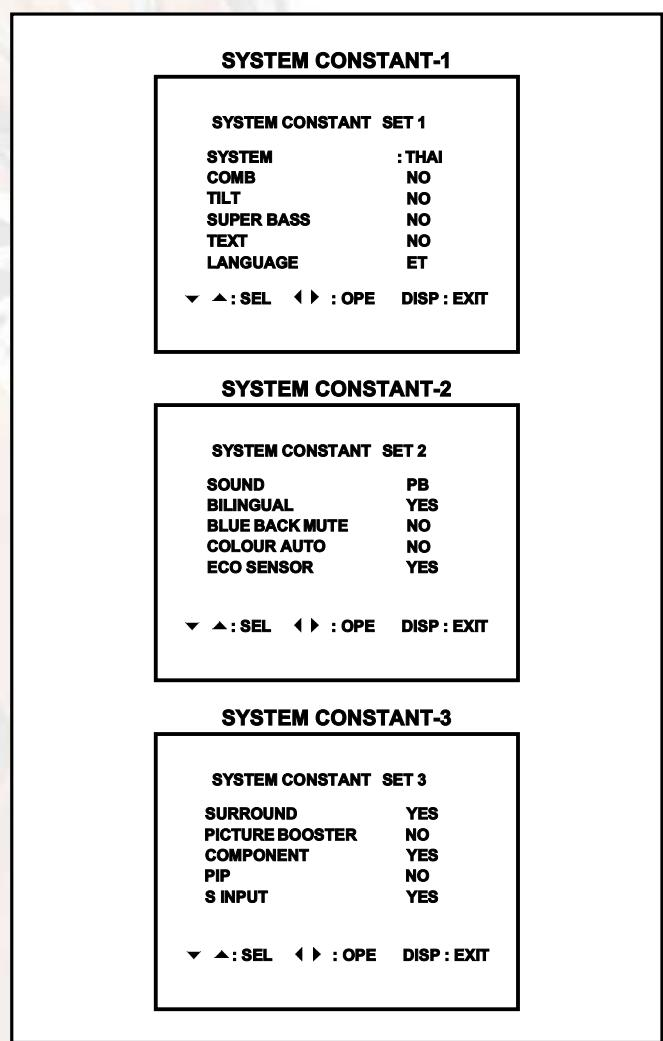

Fig.2
- (2) In the SERVICE MENU, press the [DISPLAY] key and [PICTURE MODE] key simultaneously. Then, the SYSTEM CONSTANT SET screen will be displayed.(See Fig.2.)
- (3) Check whether the setting values of the SYSTEM CONSTANT SET are the same as those indicated in Table 1. If the value is different, select the setting item with the MENU [▲] / [▼] key, and set the correct value with the MENU [◀] / [▶] key.
- (4) Press the [DISPLAY] key twice to return to the normal screen.